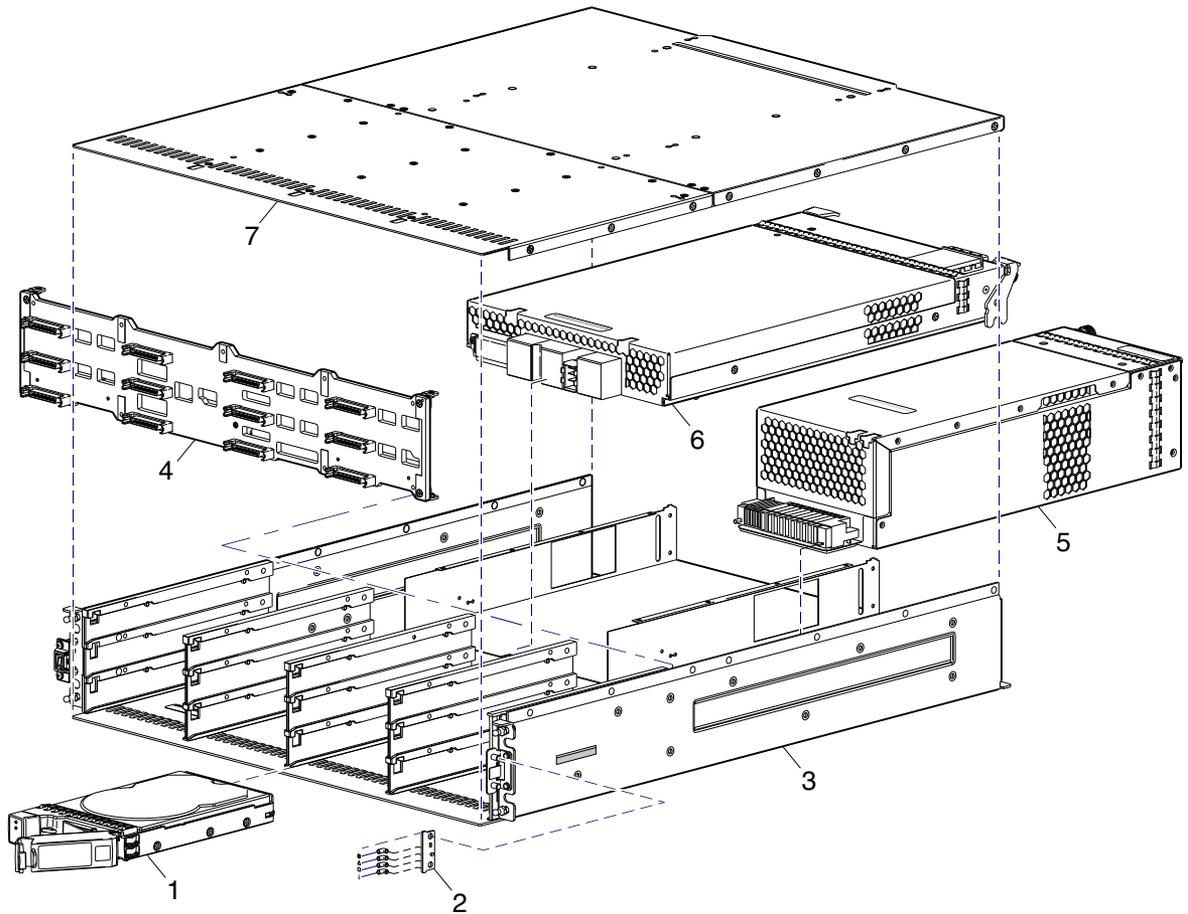
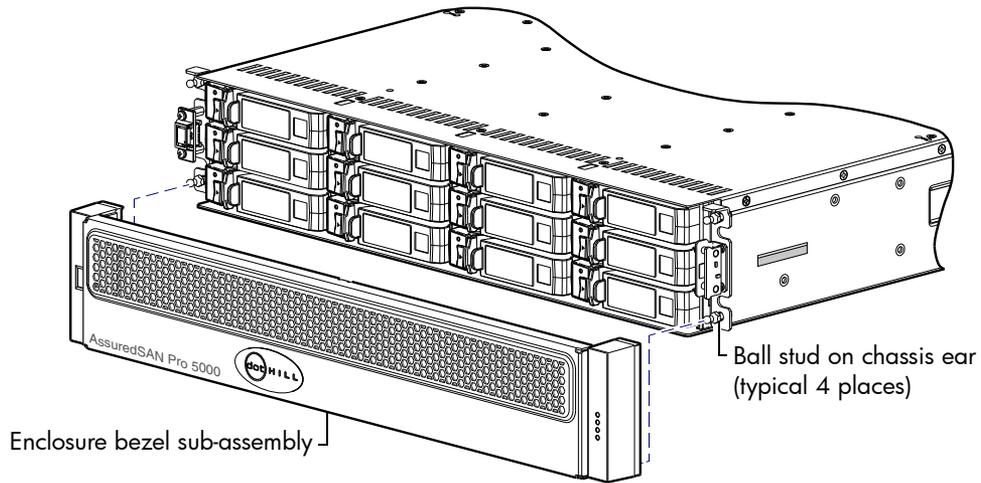
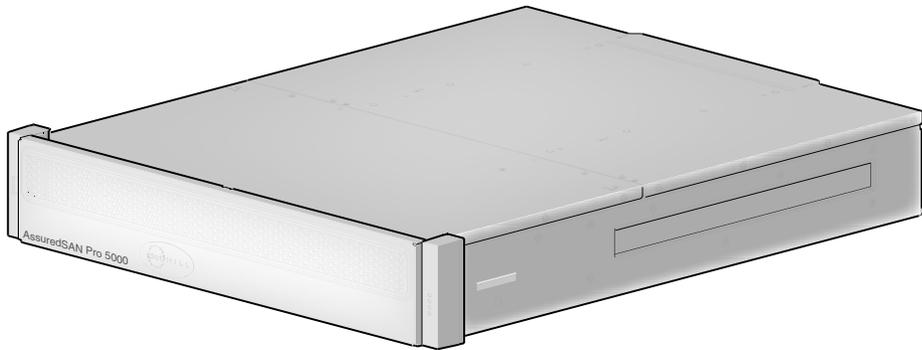
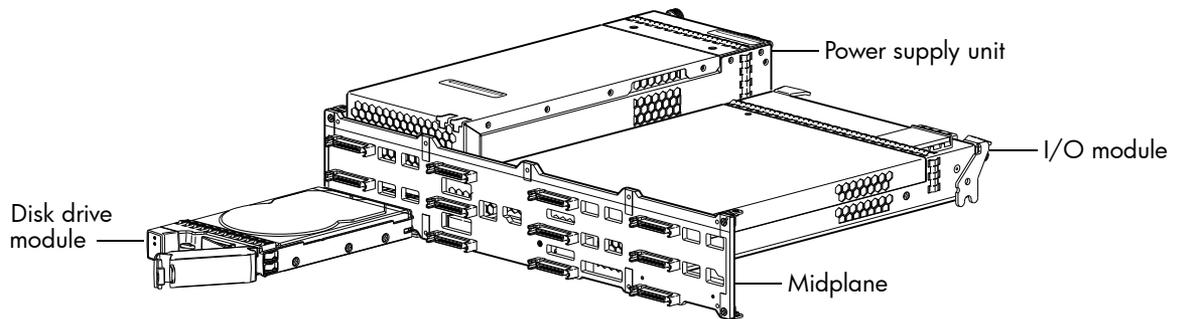

Figure 6 Exploded view — expansion enclosure (standard-depth 2U12)
Figure 7 Partial assembly showing bezel alignment (standard-depth 2U12)
Figure 8 Expansion enclosure assembly with bezel installed (standard-depth 2U12)
Figure 9 Expansion enclosure architecture — internal components sub-assembly (standard-depth 2U12)
**NOTE:** Numbered items from Table 5 are shown in Figure 6.
Figure 6 through Figure 9 illustrate 12-drive enclosure models. Figure 8 on page 18 provides an assembly of the exploded view shown in Figure 6, and Figure 9 on page 18 shows an assembly of component FRUs within the enclosure. Figure 6 does not show a cover for the ear bezel components (item No.2). Newer product models use an enclosure bezel instead of ear caps. The enclosure bezel is shown in Figure 7 on page 18 (removed) and Figure 8 on page 18 (installed), respectively.
- Assembly — Figure 7 and Figure 8
- Internal components sub-assembly — Figure 9
Newer models of the LFF 12-drive enclosure support a bezel sub-assembly that attaches to the front of the chassis (see Figure 7 on page 18). The bezel—comprised of a vented sheet metal cover secured to an ear cap on each end—is pre-assembled and packed with foam into a box included in the master shipping container.
Bezel attachment and removal instructions are provided beneath Figure 7 on page 18.
- See Figure 7 on page 18 for 2U12 enclosure bezel alignment.